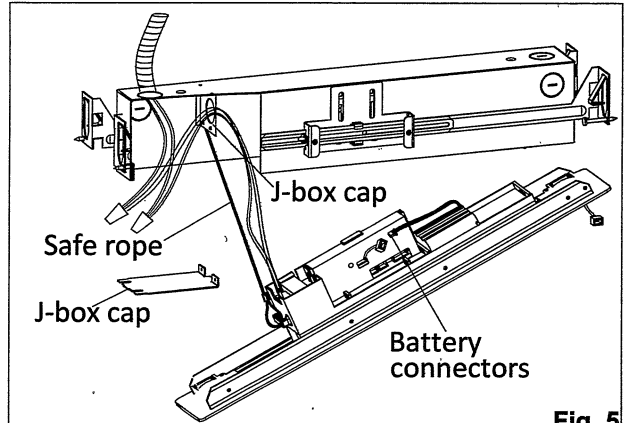

Fig. 5
3. Hang safe rope to the module clip see Fig. 5